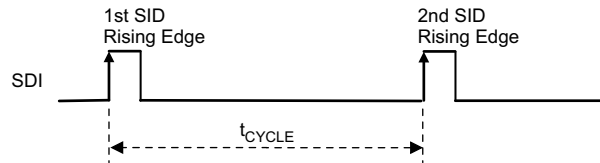
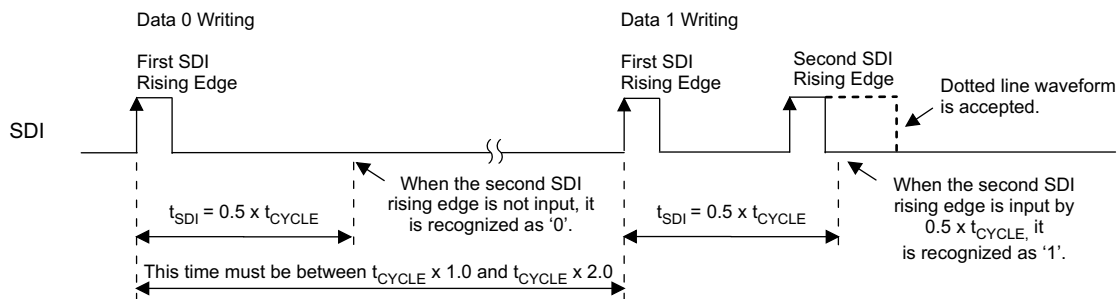

Figure 16. Data Transfer Rate (t_{CYCLE}) Measurement
Figure 17. Data '0' and '1' Write Operation
The TLC59731 measures the time between the first and second SDI rising edges either after the device is powered up or when the GS data latch sequence is executed (as described in the GS Data Latch Sequence \(GSLAT\) section) and the time is internally stored as t_{CYCLE} . t_{CYCLE} serves as a base time used to recognize one complete data write operation, a 32-bit data write operation, and a GS data write operation to the GS data latch. t_{CYCLE} can be set between 1 μs and 50 μs ($f_{\text{CLK(SDI)}} = 20 \text{ kHz}$ to 1000 kHz). In this sequence, two instances of data '0' are written to the LSB side of the 32-bit shift register. Figure 16 shows the t_{CYCLE} measurement timing.
When the second SDI rising edge is not input before 50% of t_{CYCLE} elapses from the first SDI rising edge input, the second rising edge is recognized as data '0'. When the second SDI rising edge is input before 50% of t_{CYCLE} elapses from the first SDI rising edge input, the second rising edge is recognized as data '1'. This write sequence must be repeated 30 times after the t_{CYCLE} measurement sequence in order to send the write command to the lower 6-bit (3Ah) and 24-bit GS data. Figure 17 shows the data '0' and '1' write timing.
2. Write the 32-bit data packet (MSB-first) for the first device using t_{CYCLE} and the data write sequences illustrated in Figure 16 and Figure 17. The first 8-bits of the 32-bit data packet are used as the write command. The write command must be 3Ah (00111010b); otherwise, the 24-bit GS data in the 32-bit shift register are not copied to the 24-bit GS data latch.